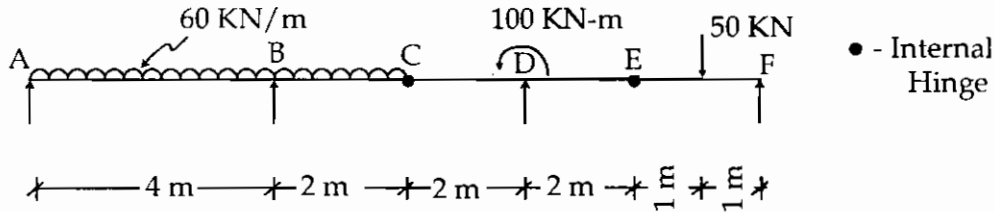

Figure 4 [Q. No. 2 (B)]
- (B) Draw the BMD and SFD for the compound beam shown in Figure 4. Showing salient values. 10